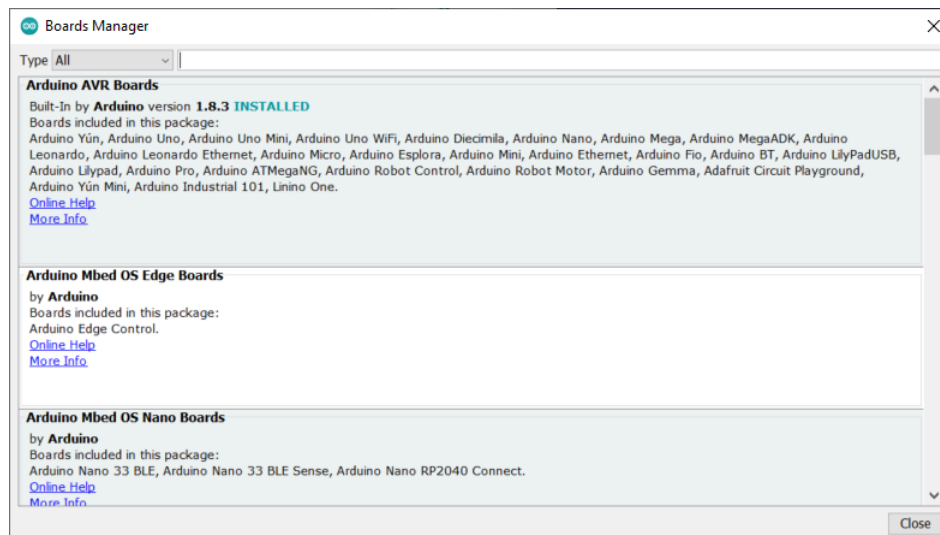

Figure 1.2: This what the Boards Manager loads up to.
- (b) It should load as shown in Figure 1.2.